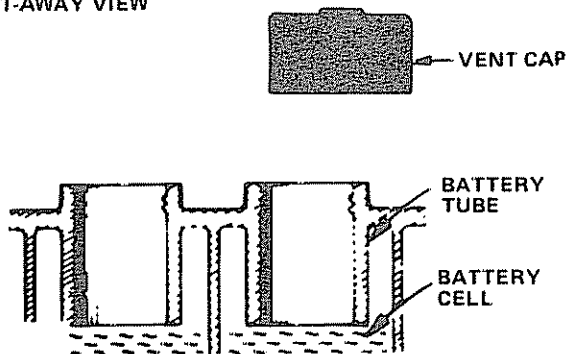

FIGURE 38
- a. Electrolyte solution level in each Battery Cell should be even with bottoms of tubes in cells (Fig. 38). Add distilled water if necessary. **NOTE: DO NOT OVERFILL.**
- Turn Mixture Screw clockwise (↻) closing finger tight ONLY, and then turn counterclockwise (↺) 1 - 1/2 turns (Fig. 38). CAUTION: VALVE MAY BE DAMAGED IF TURNED IN TOO FAR.